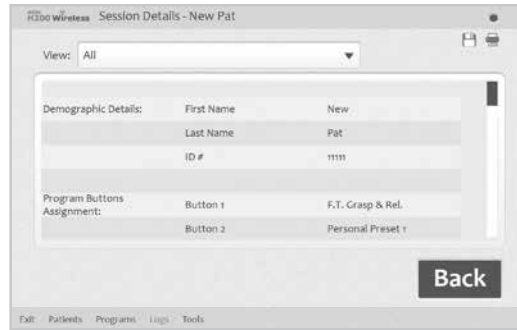

Figure 8-35: Session Details Window
4. The Session Details window will open, showing the details saved for the session. See Figure 8-35.